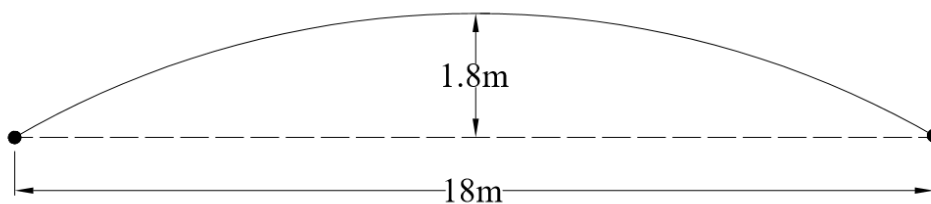

Fig.13
9. A two-hinged parabolic arch has a horizontal span of 18m and a central rise of 1.8 m (refer Fig.13). Draw influence line diagrams for (i) Horizontal thrust at support (ii) B.M. at a section 6 m from the left support.